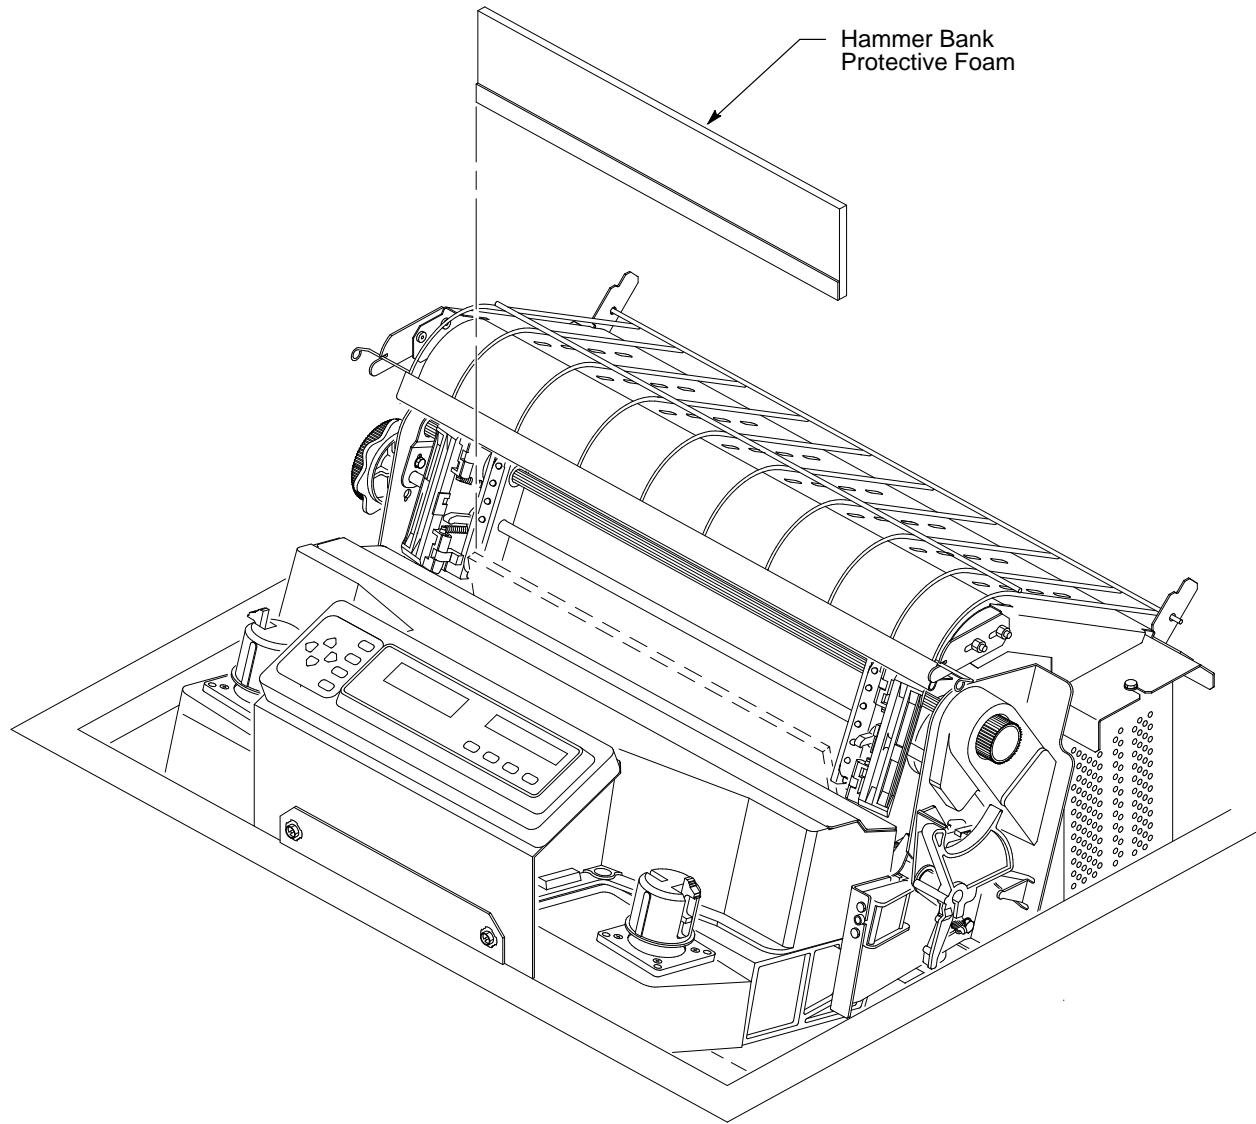

Figure 2-4. LG06: Hammer Bank Protective Foam
1. Rotate the hammer bank protective foam toward the front of the printer and remove it from between the ribbon mask and hammer bank. (See Figure 2-4.)